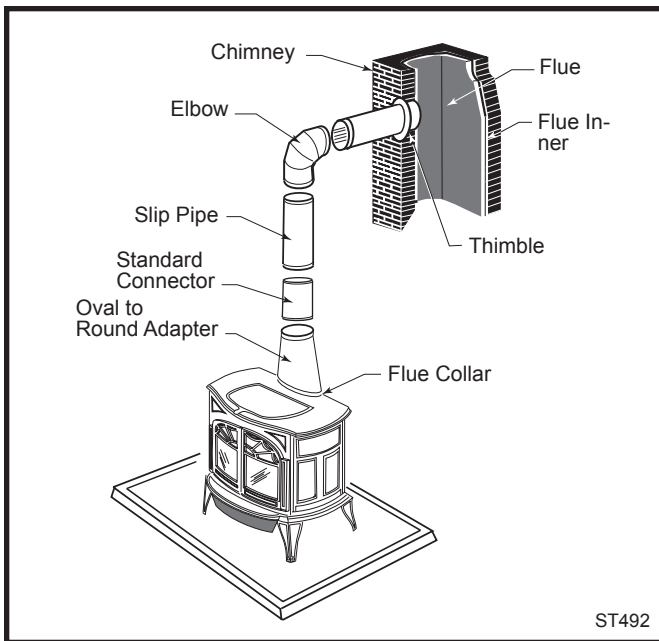

Fig. 6 An exploded view of the chimney connection in a free-standing masonry installation.
- Fasten the chimney connector to the chimney. Instructions for various installations follow. Figure 6 illustrates the general layout of chimney connector parts.